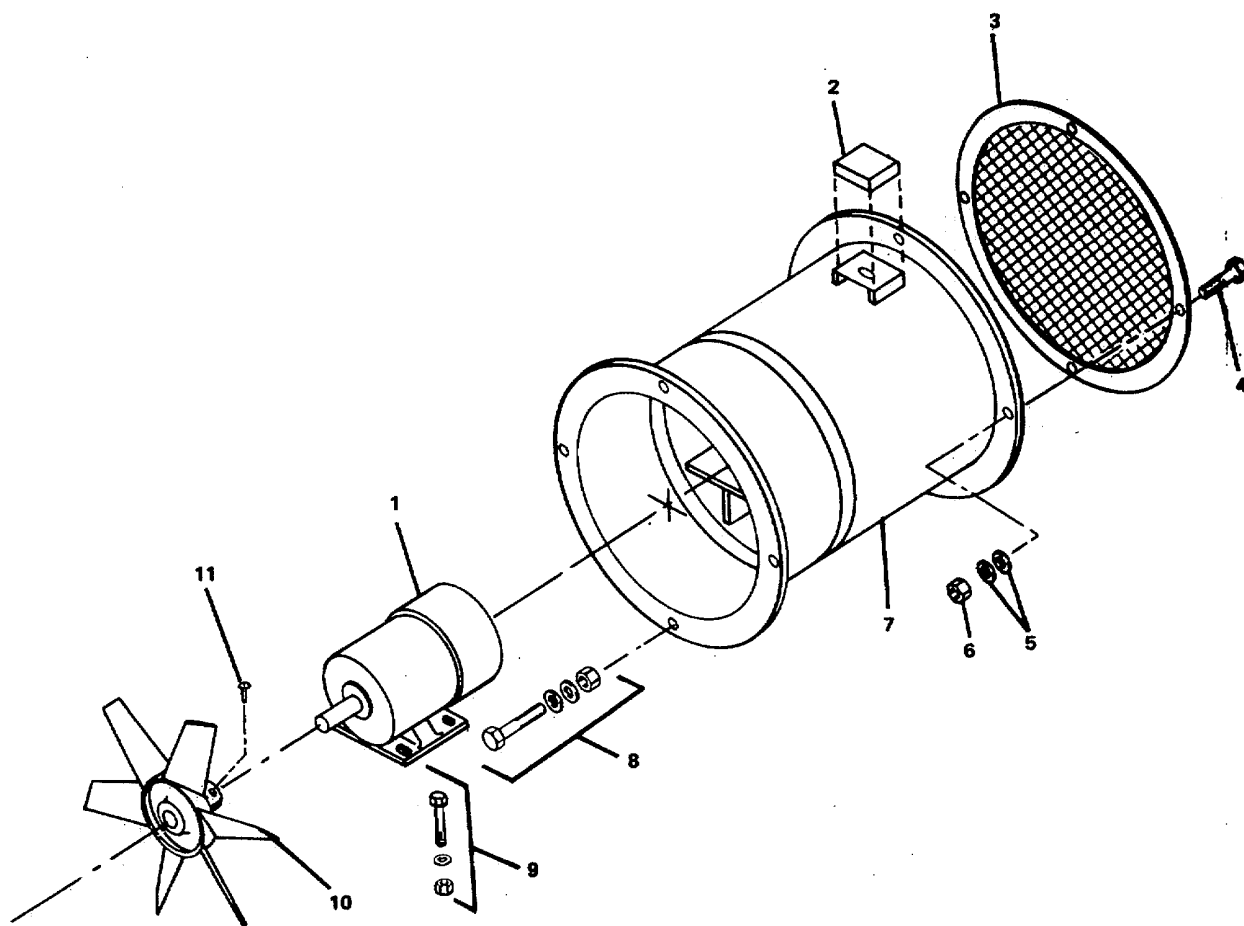
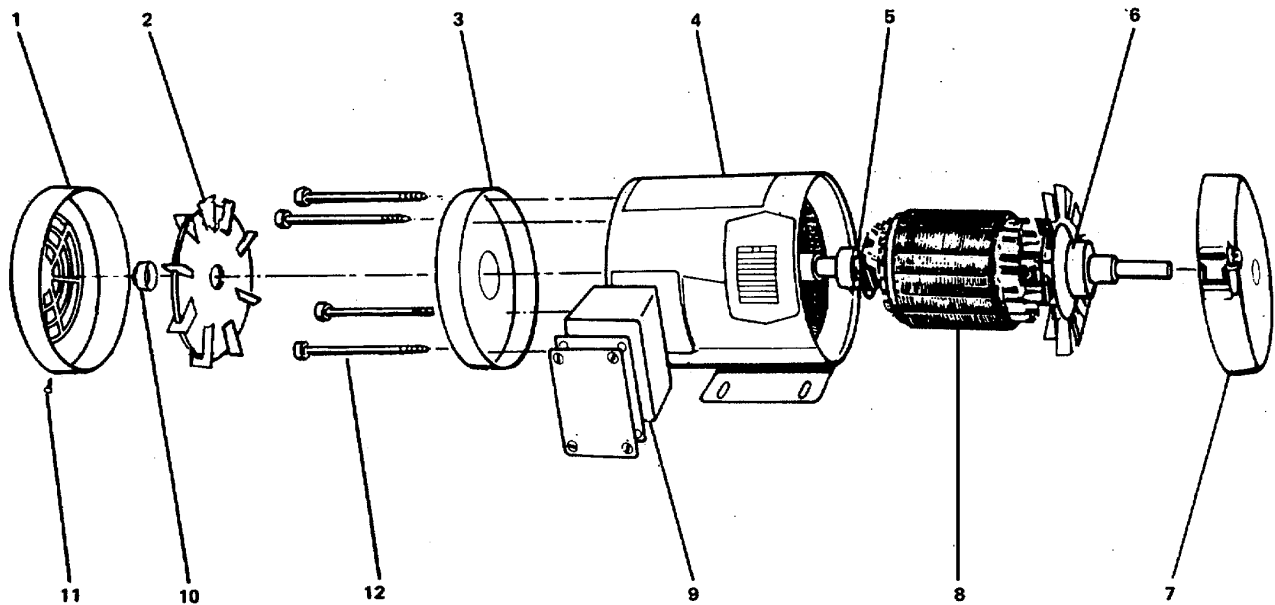

Figure 2-19. Ventilating Fan (Exhaust Fan #3).
Figure 2-20. Alternating Current Electric Motor (EF #3).
- a. Tag and disconnect electrical wiring from conduit box (2, FIGURE 2-19).
- b. Support the fan assembly and remove mounting bolt, nut, and washer assemblies (8) from bulkhead end of the fan drum (7).
- (2) Tag and disconnect electrical wiring from terminal box (9, FIGURE 2-20).
- (3) Loosen setscrew (11, FIGURE 2-19) and remove the impeller (10) from the shaft of the motor (1).
- (4) Remove mounting bolt, nut, and washer assemblies (9).
- (5) Withdraw the motor (1) from the fan drum (7).
b. Removal of bearings (refer to FIGURE 2-20):
- (1) Remove screws (11) and fan cover (1) from motor housing (4).
- (2) Remove locking hub (10), external fan (2), thru bolts (12), and end plates (3) and (7).
- (3) Remove rotor (8) from motor housing (4).
- (4) Remove annular ball bearing (5) from non-drive end of the rotor (8) with a puller.
- (5) Remove bearing (6) from drive shaft with a puller.
c. Replacement of bearings (refer to FIGURE 2-20):
- (1) Install new bearing (6) onto drive shaft with a press.
- (2) Install new annular ball bearing (5) onto non-drive end of the rotor (8) with a press.
- (3) Position the rotor (8) in the motor housing (4).
- e. Replacement of motor (refer to FIGURE 2-19):
- (1) Position the motor (1) on its mounting surface in the fan drum (7).
- (2) Install mounting bolt, nut, and washer assemblies (9). Secure bolts firmly.
- (3) Install impeller (10) onto shaft of motor (1). Tighten setscrew (11) firmly.
- (4) Connect the electrical wires to terminal box on motor.
- (5) Install screen (3) with nuts (6), washers (5), and bolts (4).
- a. Position the fan and install mounting bolt, nut, and washer assemblies (8, FIGURE 2-19) in bulkhead end of the fan drum (7). Secure bolts firmly.
- b. Connect wiring to conduit box (2).
- (1) Turn electrical power ON.
- (2) Start and run fan to check operation.
- (3) Remove "Out of Service" tag from circuit.
2-31. Repair Fan, Ventilating (Exhaust Fans #4 and #6)..(FIGURE 2-20)**This task covers:**